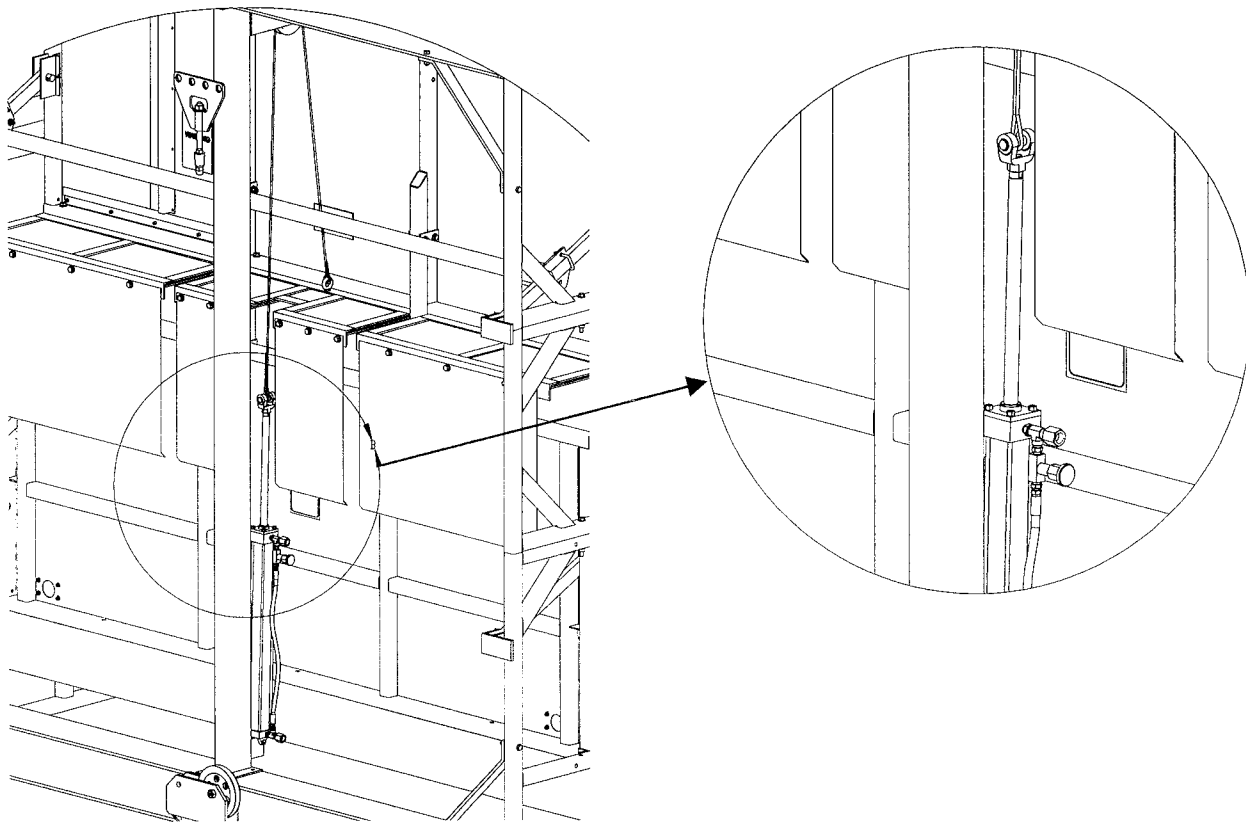

Figure 3-49 Hydraulic Bin Door Cylinder Installation
After the installation of the door has been completed, the door arm stabilizer should be installed. Refer to Figure 3-49. The stabilizer assembly bolts between either the top of the door arms for two (2) section doors or on the middle set for three (3) section doors.
1. Locate the limit switch on the bin structure above the door arm mounting bracket as shown in Figure 3-49.
The automatic bin door is operated by the outputs of the programmable controller and the logic (program) provided by TURBO. The programmable controller needs inputs from limit switches mounted on the bin door to determine the position of the door during normal operation. A Door Closed limit switch (DCLS) and Door Open limit switch (DOLS) are provided by TURBO for field installed for this purpose. Reference Figure 3-49 in step 10 (Bin Door Assembly) for instructions on installing the limit switches. Both limit switches must be installed and properly wired for the door control to function properly.